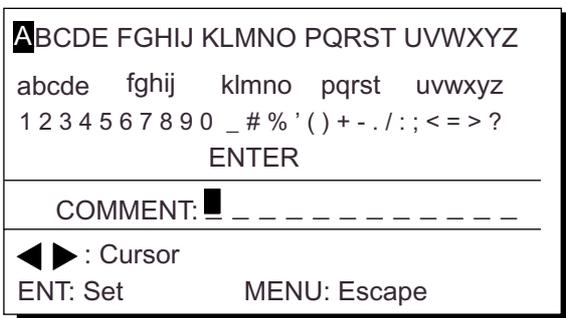

Figure 4-5 Screen for entry
8) Press the [NU/CU ENT] key. The display shown in Figure 4-5 appears.